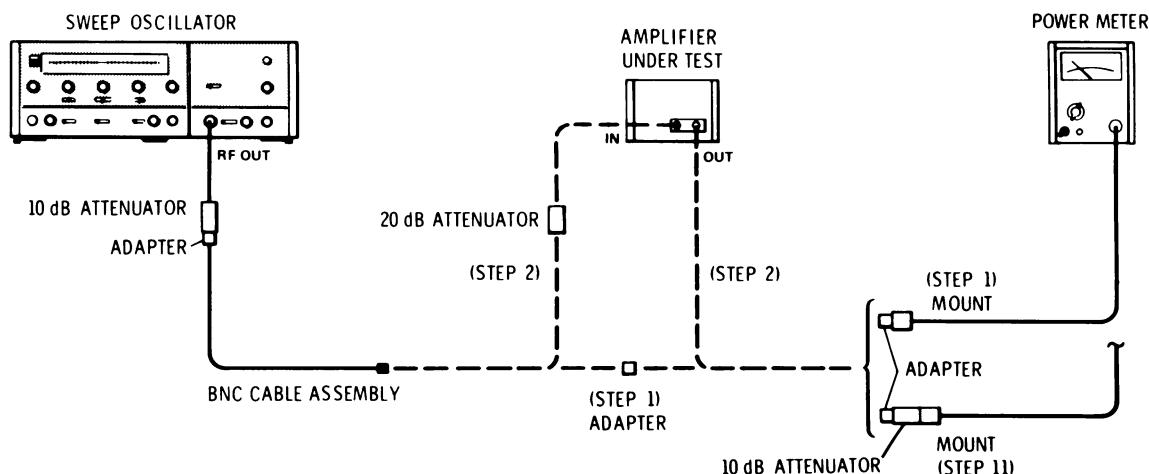

Figure 3. Gain Flatness, Mean Gain, and Gain Compression Test Setup: 10 MHz to 1.3 GHz
1. To measure gain flatness and mean gain, connect the equipment as shown in Figure 3. Set the sweep oscillator for a 1.3 GHz, leveled, CW signal; set the signal level for  $-10$  dBm out of the 10 dB attenuator (read on the power meter).
11. To check compression, connect the power meter mount, through the 10 dB attenuator, to amplifier OUTPUT (as shown in Figure 3). Connect the sweep oscillator, through the 20 dB attenuator, to amplifier INPUT. Set the sweep oscillator for a leveled, 650 MHz, CW signal and set the signal level (read on the power meter) as follows: